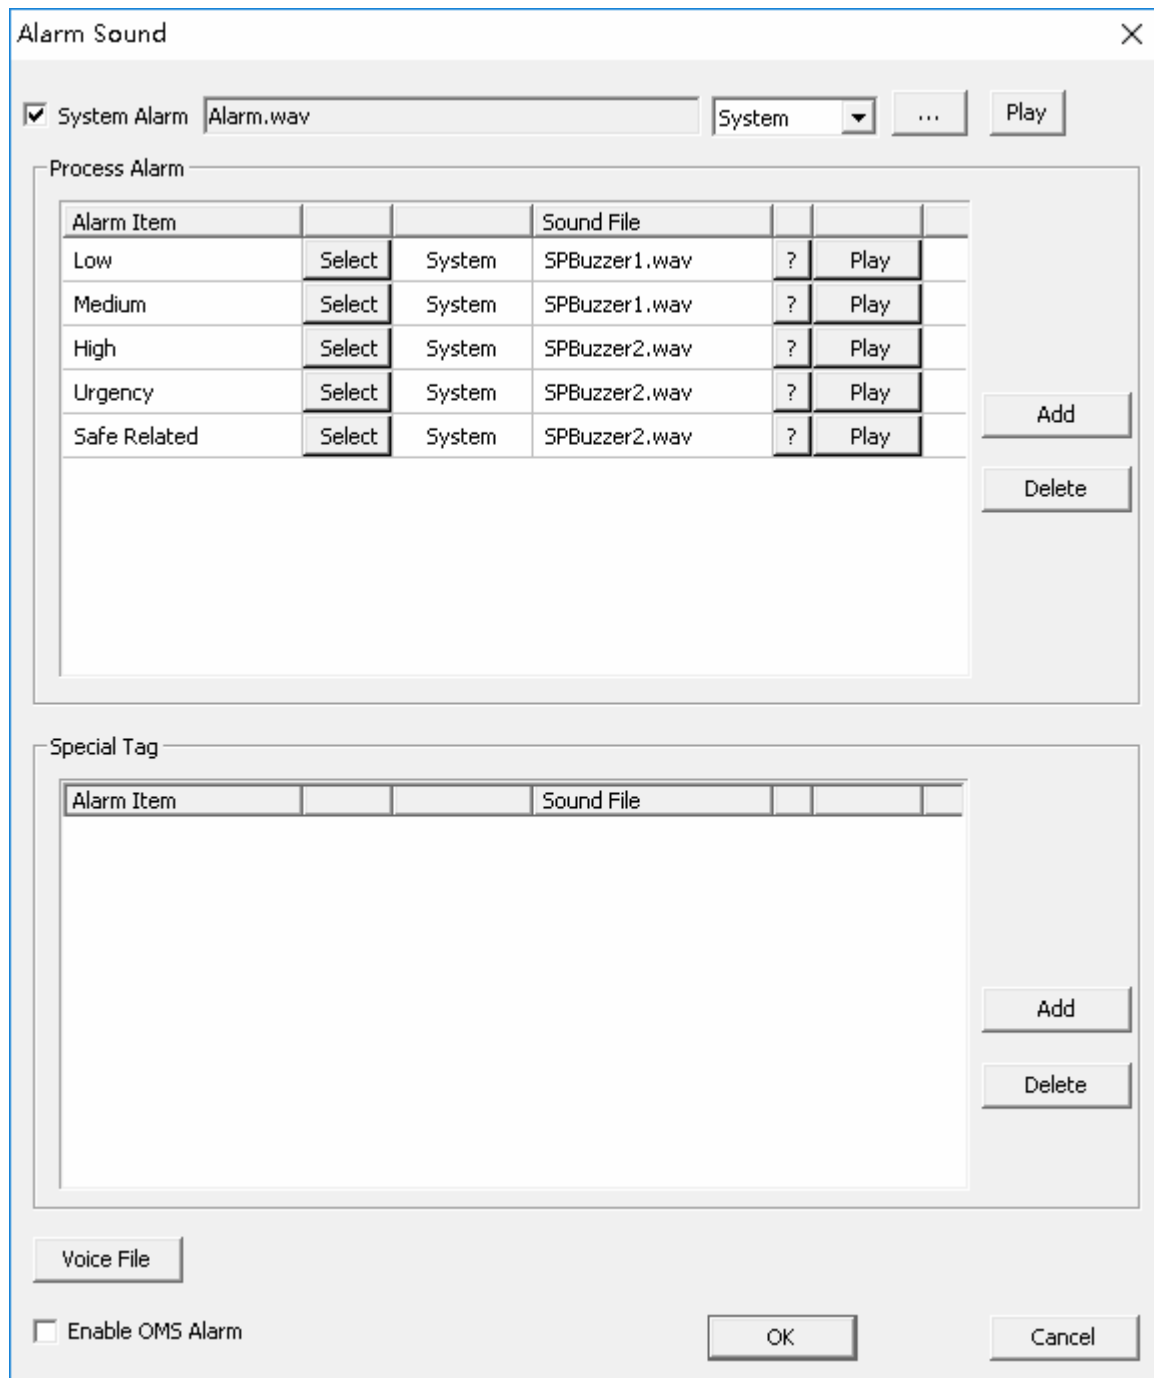
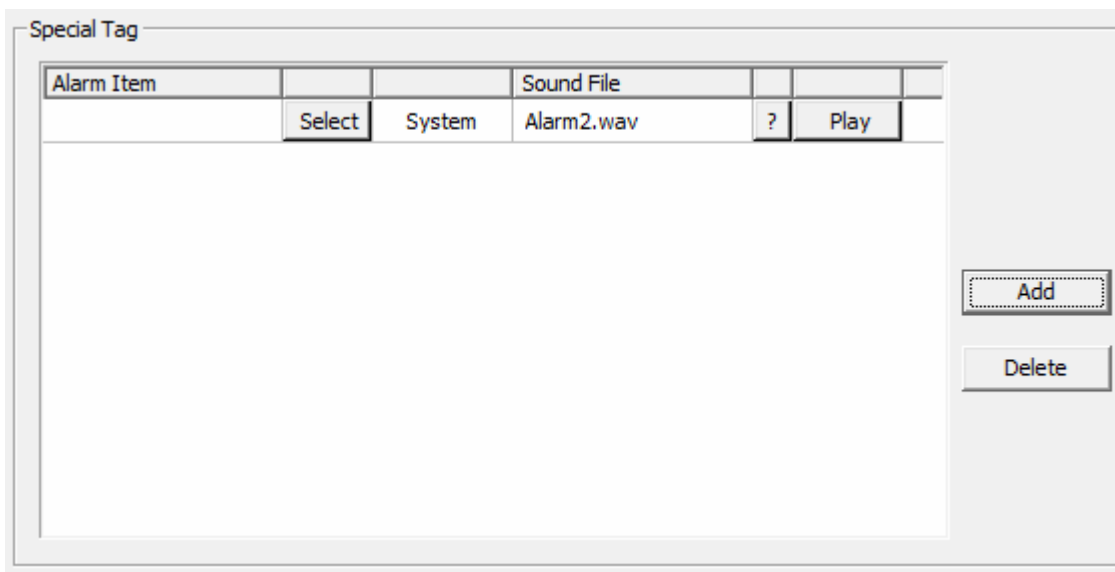

Figure 4-77 Interface of “Alarm Sound Configuration”
Figure 4-79 Set sound file for special tag
Double-click "Alarm Sound", and the configuration interface of alarm sound will pop up, as shown in Figure 4-77.
1. Click "Select" in Figure 4-77 to select the alarm priority in "Alarm Priority Setting" dialog popped up.
Click the "Add" button in Special Tag dialog box shown in *Figure 4-77* to add a setting item, as shown in *Figure 4-79*.
You can select whether to monitor the alarm in the interface shown in Figure 4-77: